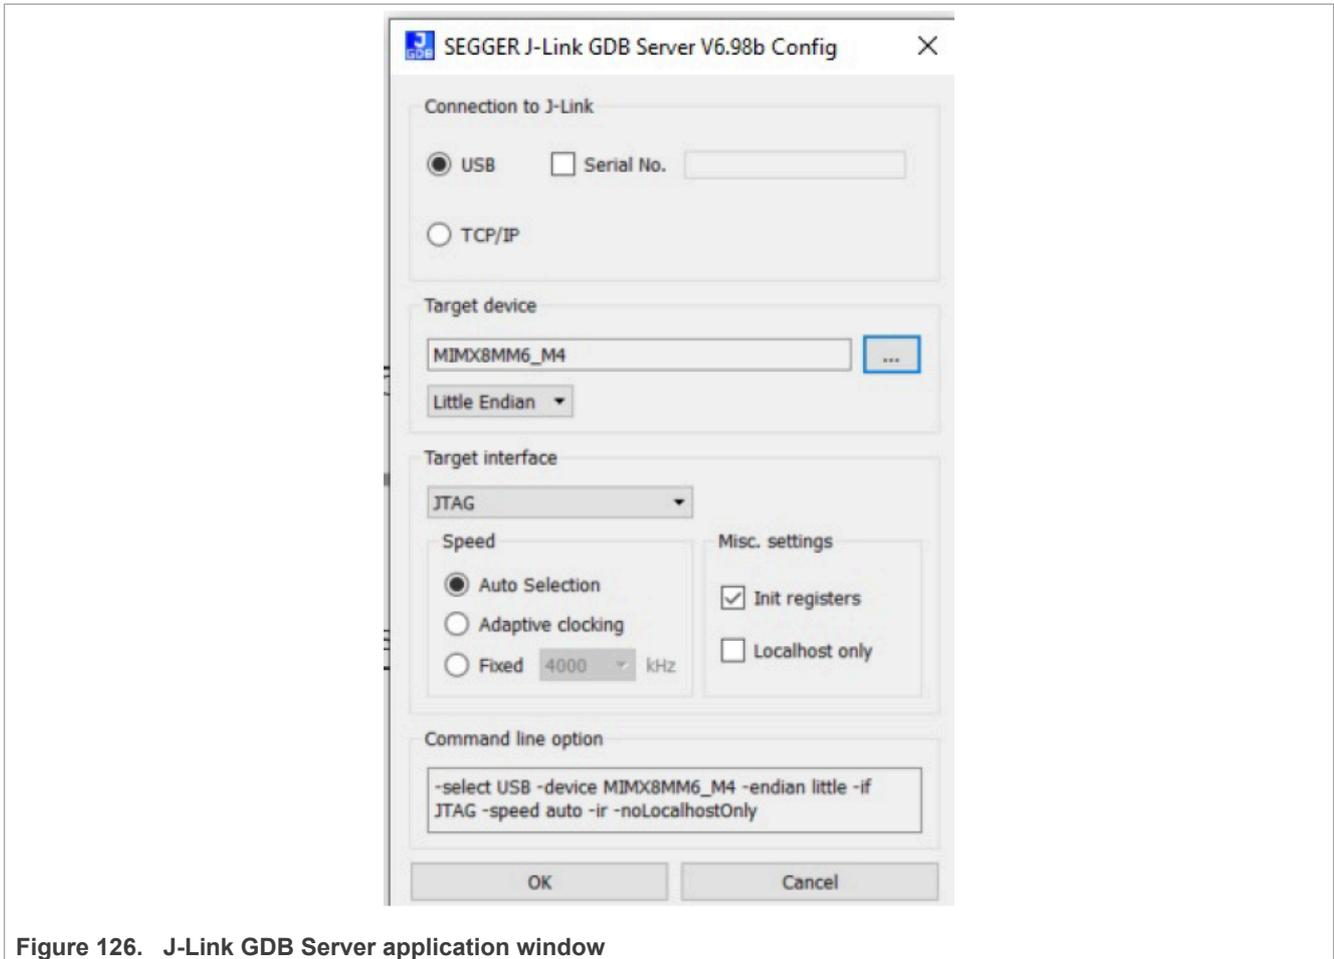

Figure 126. J-Link GDB Server application window
- After server is launched, modify the settings as shown in Figure 126. The target device selected for this demo is **MIMX8MM6_M4**.